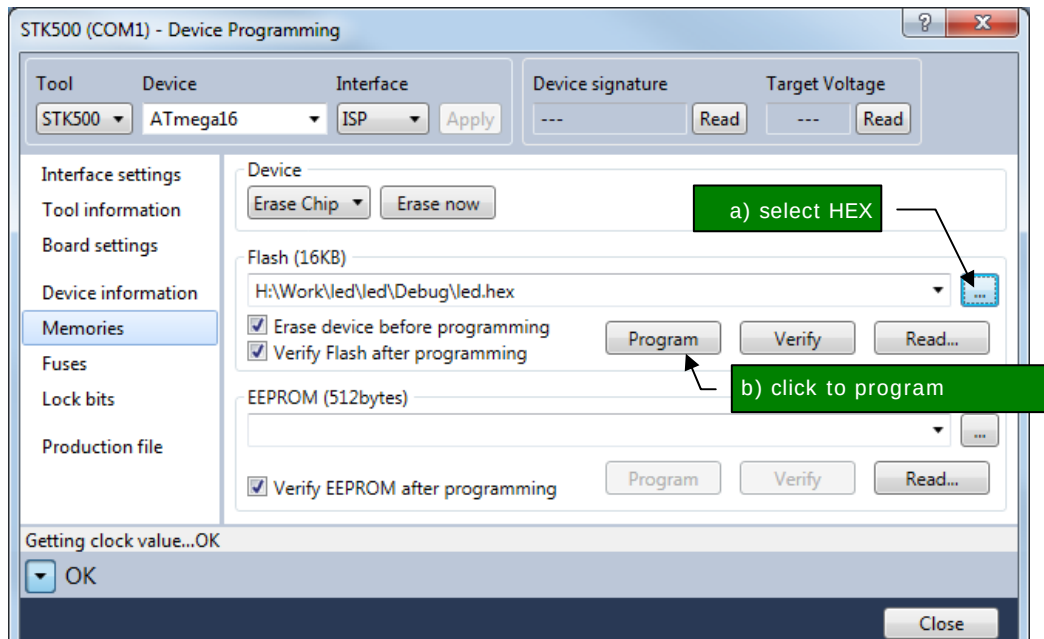

Figure 14: Programming the ATmega16 chip.
- In 'Memories' tab, select the HEX file and click 'Program' (see Figure 14).